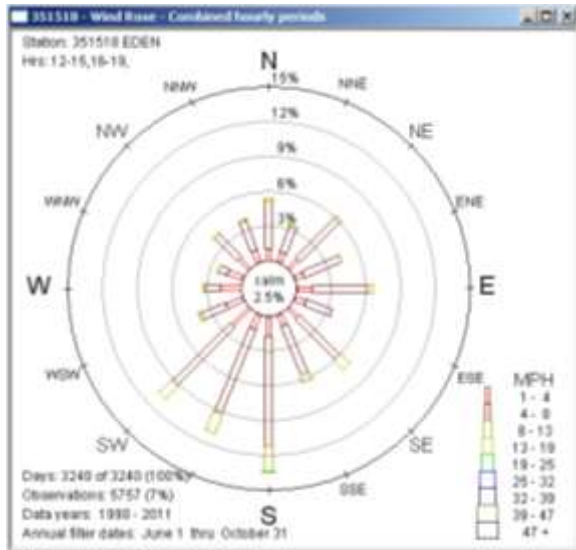

Figure 3-26—Wind rose for June 1 to October 31 from noon to 1900.
- c) Look at the **Wind Rose – Combined hourly periods** window (fig. 3-26). This summarizes the frequency of wind speed category by direction in a graphical form. There is a definite trend of winds coming from the south to southwest for this time period and those winds having the highest speeds. The strongest winds (13-19 mph) occur from the south, but they rarely occur.